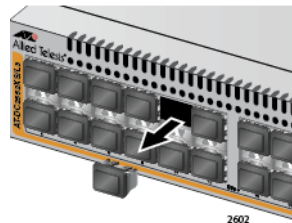

Figure 30. Removing the Dust Plug from an SFP+ Slot
1. Remove the dust plug from an SFP+ slot on the switch. See Figure 30.